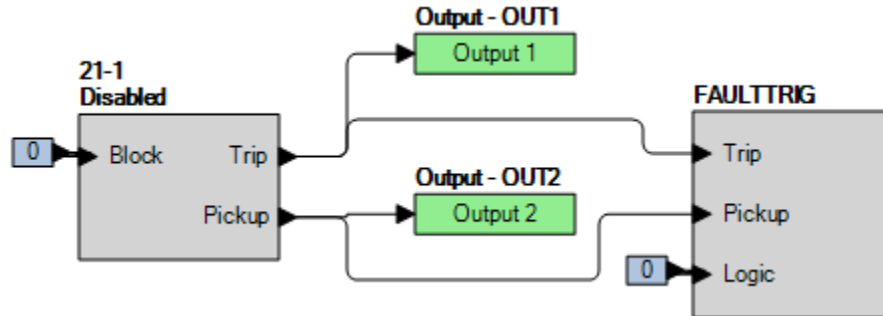

Figure 71-1. BESTlogicPlus Settings
Step 2: Use BESTCOMSPPlus to configure the BESTlogicPlus programmable logic shown in Figure 71-1.
- Step 4: Prepare to monitor the 21-1 function operation. Operation can be verified by monitoring OUT1 (see Figure 71-1).